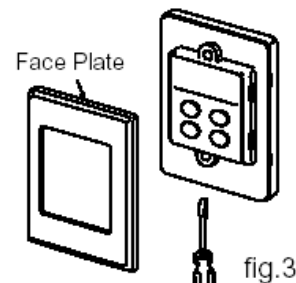

fig.3
4. Remove the face plate from the controller using a flat screwdriver. Take care not to damage the cover (fig. 3.)
4. Cut the spade connectors from two controller cables (4 connectors should be cut off) and discard. Connect the wires and terminate into two new spade connectors as shown in fig. 3.
3. Cut the spade connectors from all four controller cables to be connected to the appliance (8 connectors should be cut off) and discard. Connect the wires from two remotes and terminate into two new spade connectors as shown in fig. 3.